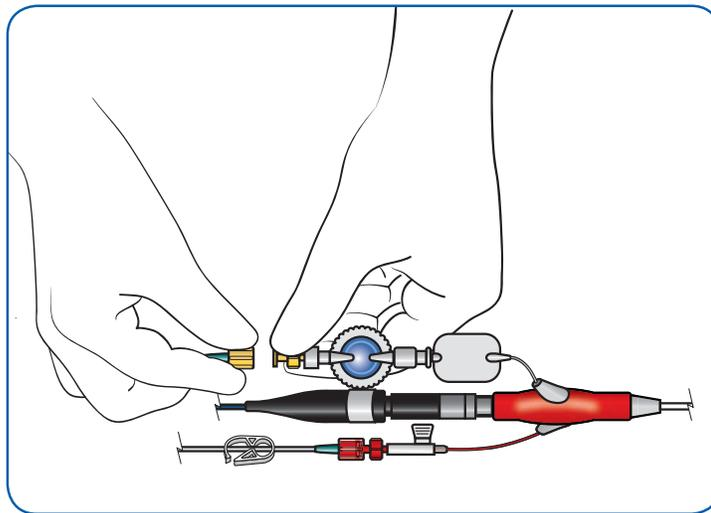

Figure 5.8 Connecting the Luer(s) to the Impella® Catheter (Impella CP® shown)
- Connect and tighten the luer(s) on the purge tubing to the Impella® Catheter sidearm(s) as shown in Figure 5.8. If using the Impella® 5.0 or LD Catheter, disconnect and discard the Y connector with red and yellow luers from the purge tubing.